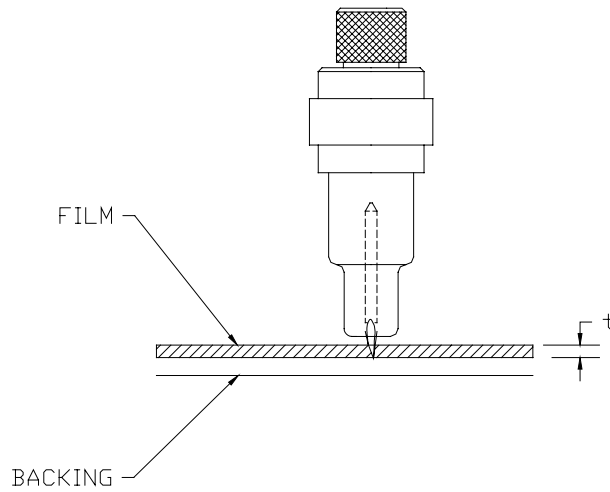

FIGURE 1-5
3. Extend the tip of the blade according to the distance required for the desired cutting media (**†**), as shown in Figure 1-5. The blade should only extend beyond the knife holder sufficiently far to cut completely through the film layer while not piercing the backing, which would put the cutting strip at risk of being damaged.